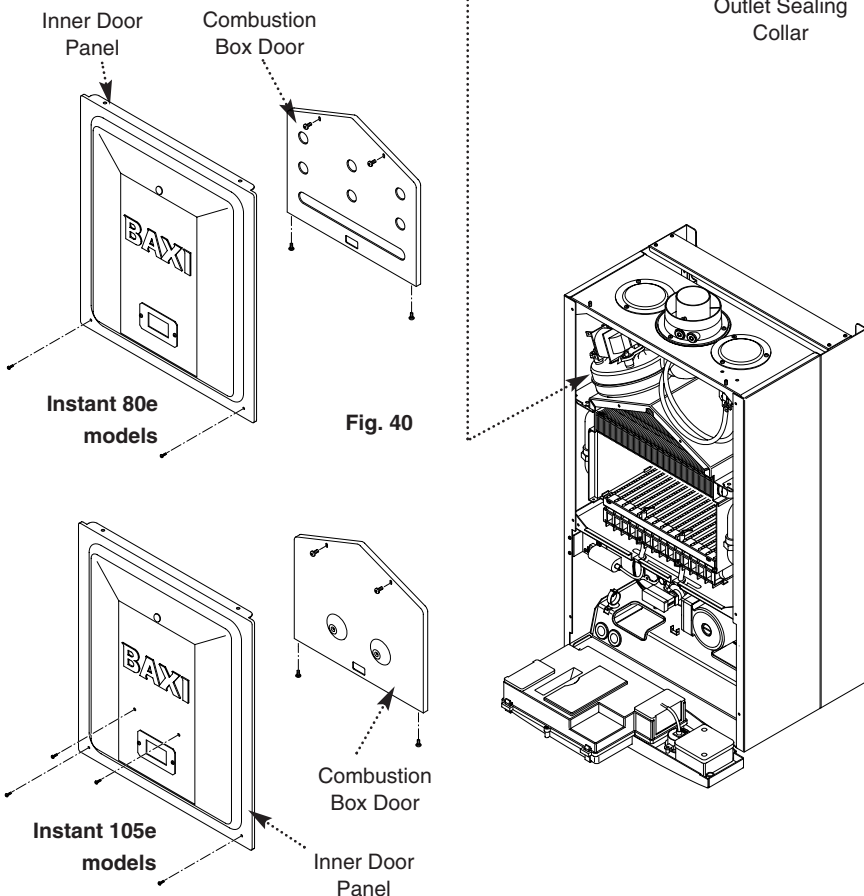

Fig. 40
6. Remove the screws (2 on Instant 80e, 4 on Instant 105e) securing the inner door panel. Lift the panel slightly to disengage it from the studs on top of the case (Fig. 40).
9. Remove the four screws securing the combustion box door and remove the door (Fig. 40).